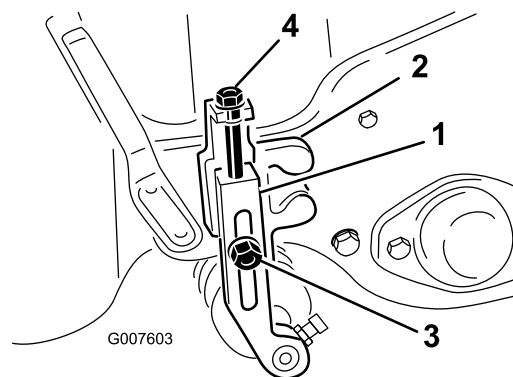

Figure 37
2. Loosen the locknuts securing the height-of-cut arms to the height-of-cut brackets (Figure 37).